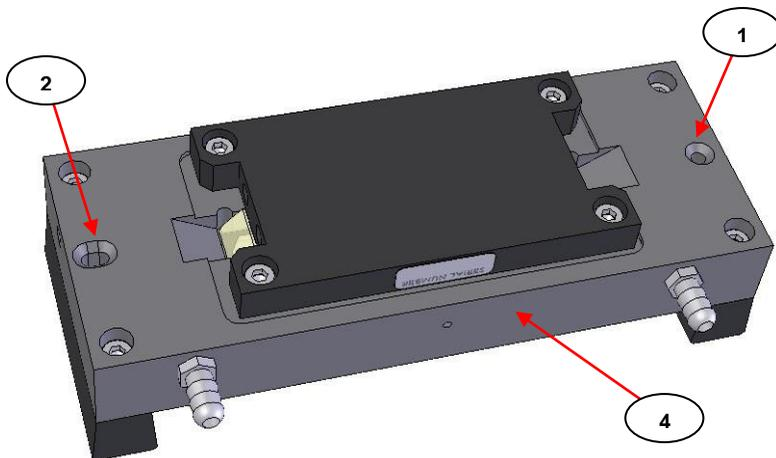
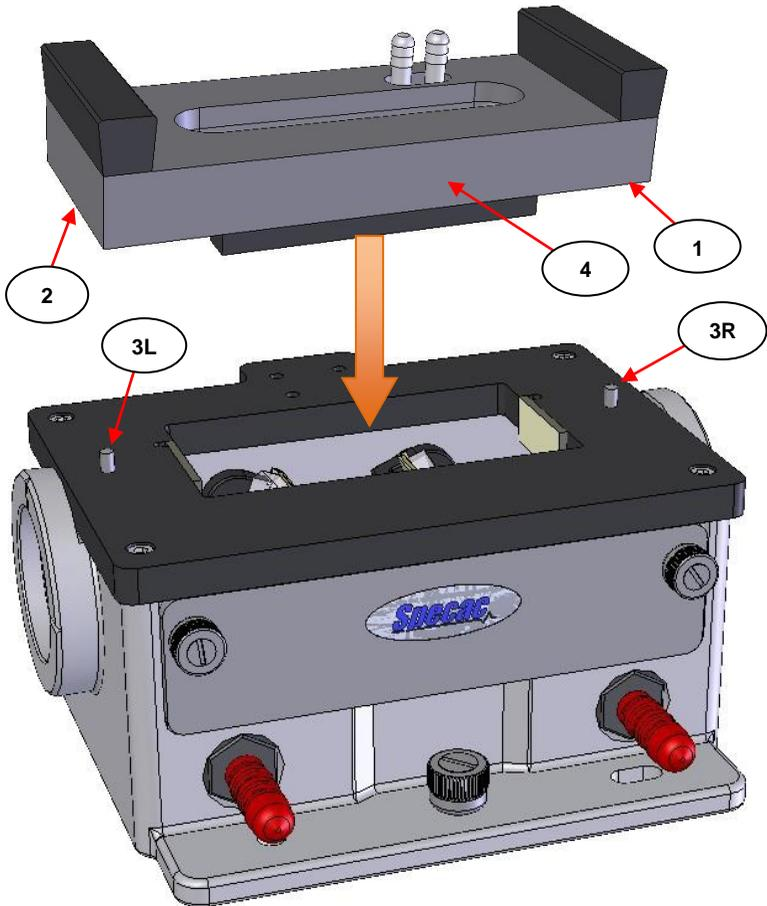

Fig 2. Round and Slot Location Holes on Underside of Gateway™ ATR Water Heated Trough Top Plate
Fig 3. Fitting of Gateway™ ATR Water Heated Trough Top Plate to the Gateway™ Optical Unit
The Gateway™ ATR Water Heated Trough Top Plate fits onto the top of the Gateway optical unit via alignment of the round hole (1) and slot hole (2) on the underside of the Top Plate over the two fixing location pins (3) on the optical unit. (See Fig 2 and Fig 3.)